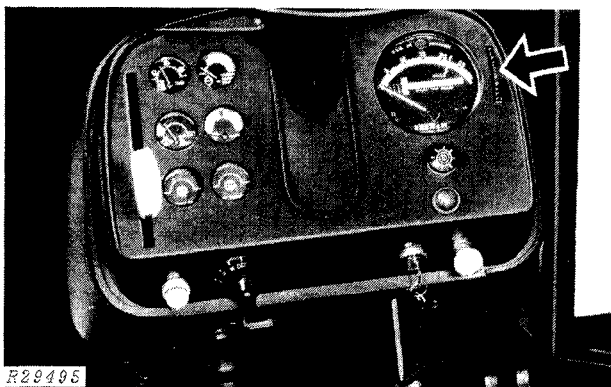

Fig. 36-Tachometer
14. Check engine idle speeds on tachometer (Fig. 36) Fast idle should be 2400 rpm and slow idle should be 800 rpm.